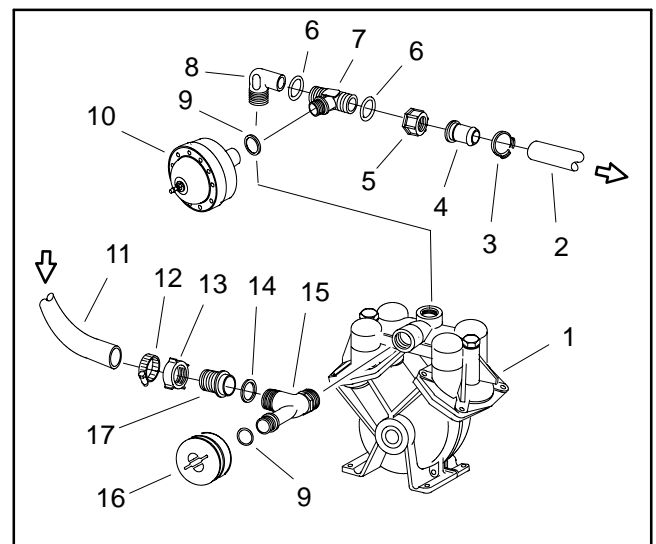

Figure 8
6. Remove four (4) flange head screws and flange nuts that secure pump to pump mount bracket.
9. If needed, remove pressure dampener, tee fitting (pressure), and elbow fitting (pressure) from pump outlet (Fig. 8).
10. If needed, remove suction dampener and tee fitting (suction) from pump inlet (Fig. 8).
2. If removed, install tee fitting (suction) and suction dampener to pump inlet. Orientate tee toward rear of machine (Fig. 8).
3. If removed, install elbow fitting (pressure), tee fitting (pressure), and pressure dampener to pump outlet. Orientate elbow toward rear of machine (Fig. 8).